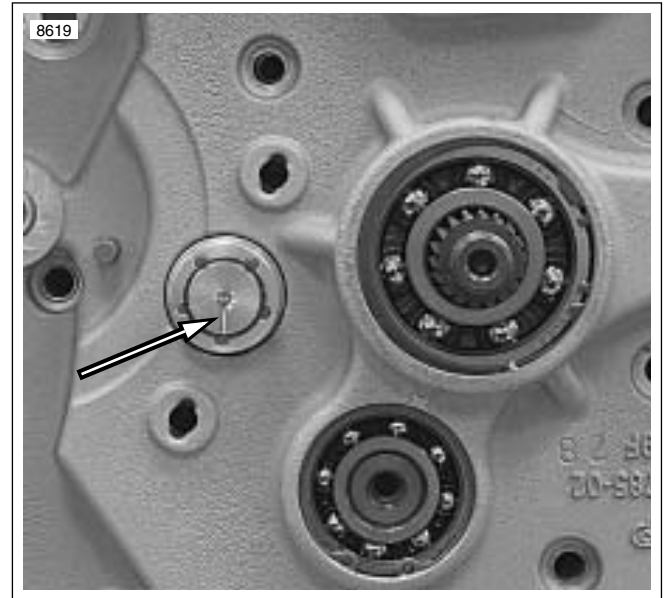

Figure 6-86. Scribed Line on Shifter Drum at 6 O'clock (Transmission in 4th Gear)
3. See Figure 6-86. Place Transmission in the 4th gear position. The scribed line on the shifting drum should be at 6 o'clock.